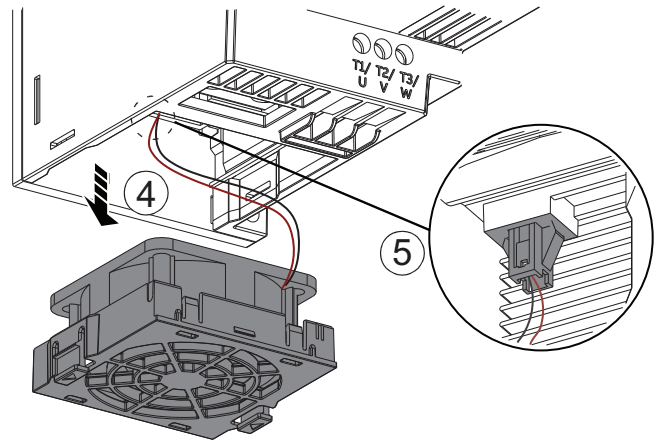

Fig. 55 — Disconnecting the Fan
4. Disconnect the fan power cable. See Fig. 55.